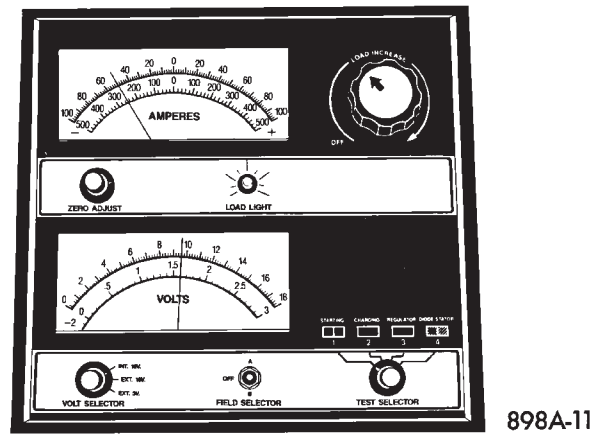

Fig. 7 Load 50% CCA Rating - Note Voltage
(5) Rotate the load control knob to maintain a load equal to 50% of CCA rating (Fig. 7). After 15 seconds, record the loaded voltage reading, then return the load control knob to OFF.
(6) Voltage drop will vary with battery temperature at the time of the load test. Battery temperature can be estimated by the ambient temperature over the past several hours. If the battery has been charged, boosted, or loaded a few minutes prior to